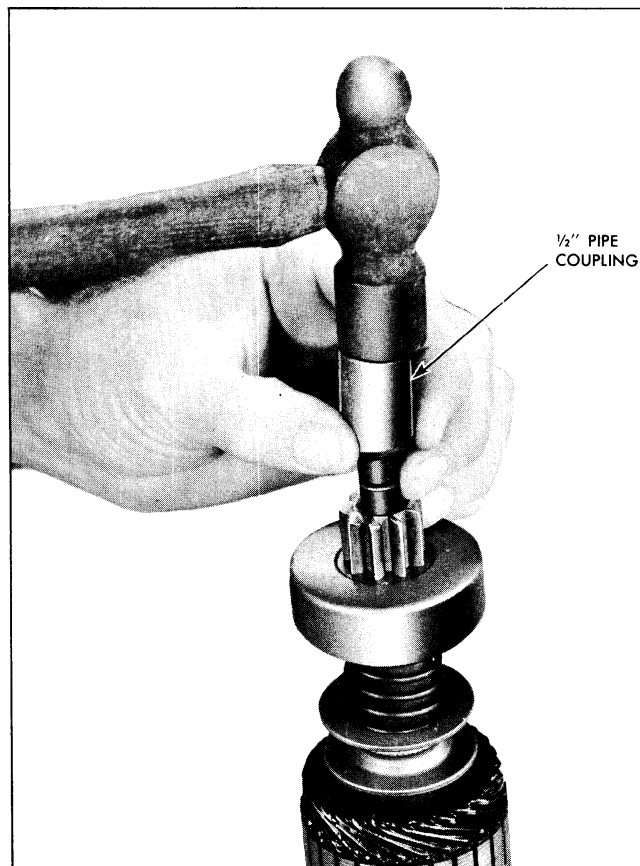

Fig. 11-6 Driving Retainer Off Snap Ring
- b. Slide a standard half inch pipe coupling or other metal cylinder of suitable size (an old pinion of suitable size can be used if available) onto shaft so end of coupling or cylinder butts against edge of retainer (Fig. 11-6). Tap end of coupling